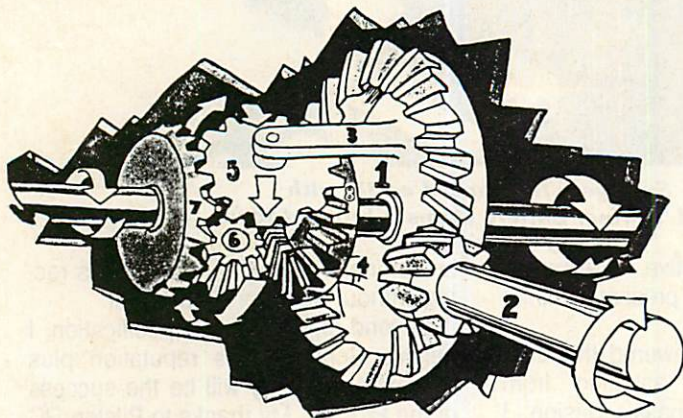

FIGURE 1
In the full size automotive world there are a few different types of geared differentials with fig 1 being common. Briefly, it works as follows: The **DRIVESHAFT** (2) comes from the engine and the other two shafts, or **AXLES** go to the wheels and have **STAR WHEELS** (7 and 8) fixed to their inner ends. The driveshaft turns the **CROWN WHEEL** (1) which has holding bars (3 and 4) fixed to it. Each holding bar has a **BEVEL PINION** (5 and 6) which are engaged with the two **STAR WHEELS** (7 and 8). As long as the vehicle is travelling in a straight line the two pinions do not revolve and therefore the starwheels and axles all turn as one. However, as the vehicle goes around a sharp corner one axle and starwheel will be allowed to turn faster than the other. This is accommodated by the pinions (5 and 6) which will start to turn. The driveshaft will therefore still transmit power evenly to both wheels even though one wheel is turning quicker than the other. This type of arrangement is called a planetary gear.